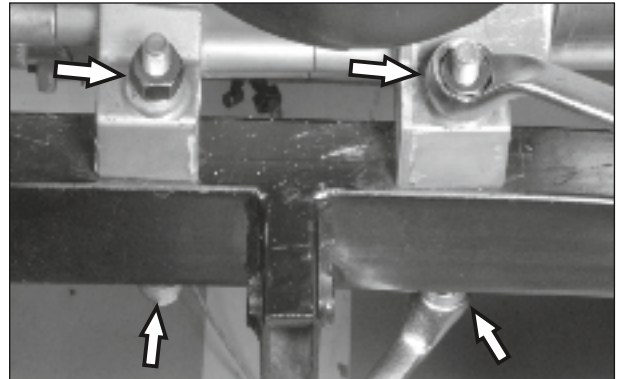

Fig. 3.12
- Take out 2nos. Hexagonal bolts M10x1.25x110 along with two punched washer from bottom side of rear engine mounting cradle. (Fig. 3.12)